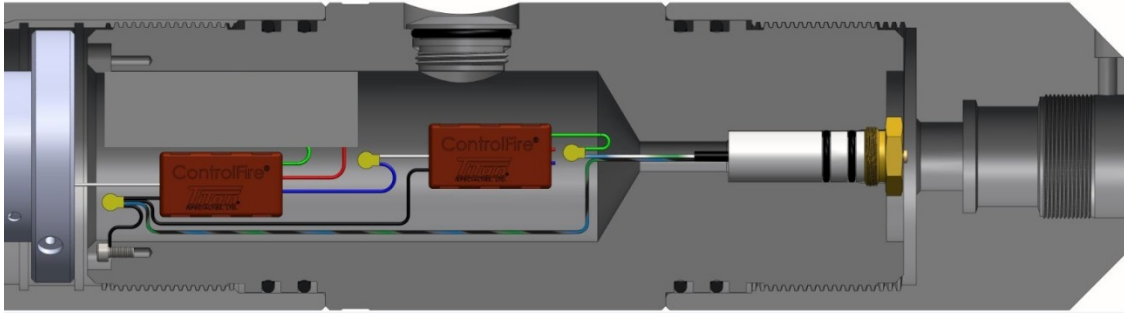

Figure 57
same ground as that of the ControlFire® switch above or to the ground coming from the EB feed through below. Connect the green wire from the last ControlFire® switch (Plug Switch) to the live through wire which connects the bulk head (9400-EBTW) going down to the igniter as shown in Figure 57. Cut the blue and red wires of the last ControlFire® switch (Plug Switch). It is recommended to terminate the blue wire so that the end of the blue wire does not come into contact with the sub body. **Do not attach setting tool firing head until ready to arm tool string.**
- Attach the Plug Shoot Adapter (PN:0365-000-285) to the bottom of the Tandem Sub. Figure 57 shows a diagram of the proper wiring for plug-shoot applications.